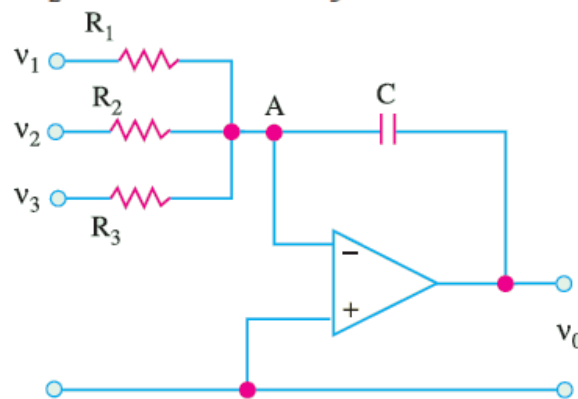

Fig. 10
**Note:** we can integrate more than one input as shown below in Fig. 10. With multiple inputs, the output is given by